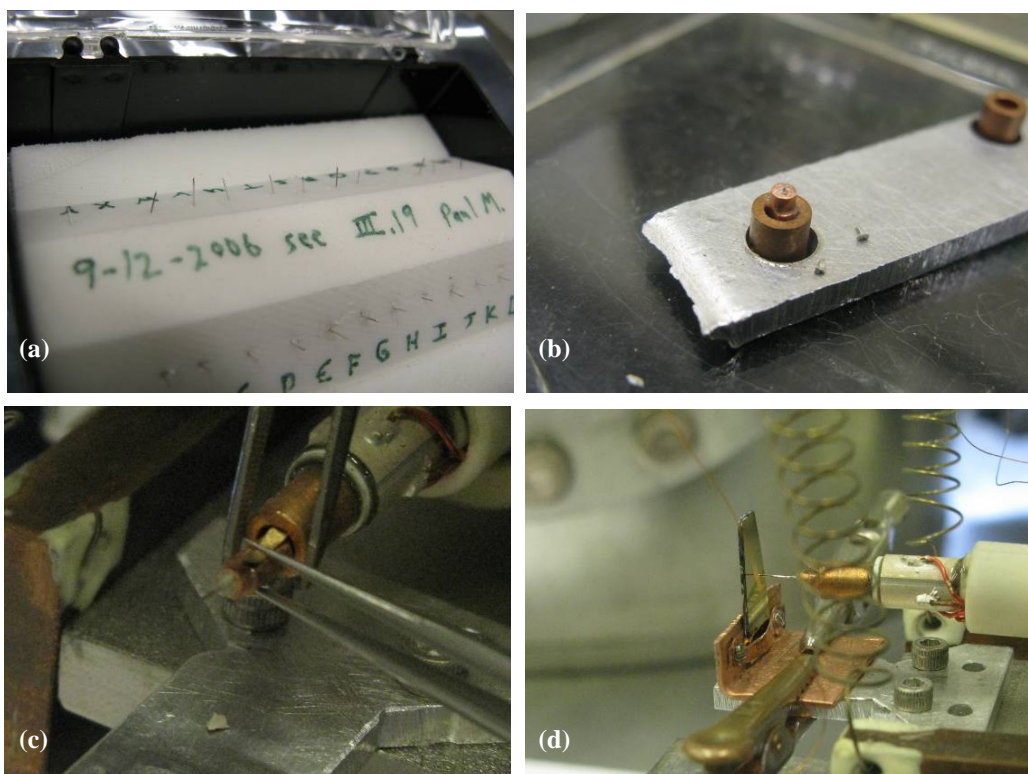

Figure 1.2 (a) The box containing the tips, (b) the tip mount (without a tip), (c) fixing the tip mount into the mount holder and (d) mounting the sample.
1. Pick up a new tip in the box (Fig. 1.2(a)) with a pair of tweezers. Fix the tip into the tip mount (Fig. 1.2(b)) using silver paste. Heat up the silver paste under the heat lamp for about one hour.
2. Fix the tip mount into the mount holder with the help of a small metal piece (Fig. 1.2 (c)). The metal piece should be on the flat side of the tip mount.
4. The other way is designed for those samples which cannot be heated up. Put the sample into the slot on the sample holder and tighten the screws (Fig. 1.2(d)). Since the sample holder is in contact with the surface of the sample, all you have to do is to fix the sample holder on the stage using the clamp.